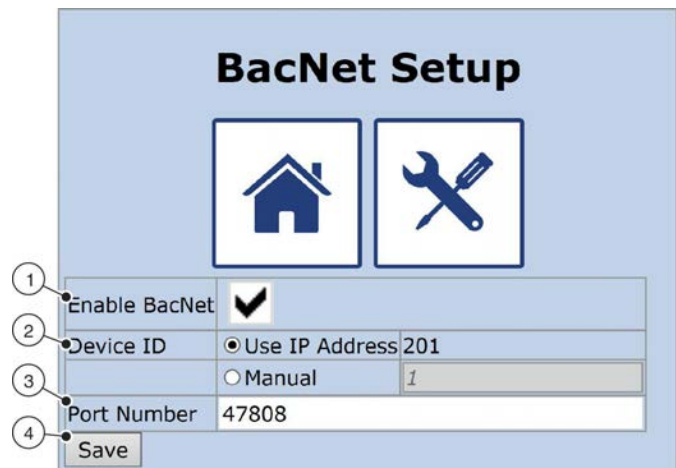

Fig. 116: BACnet setup
- ⇒ The 'BACnet Setup' screen (Fig. 116) displays.
4. ▶ Enable BACnet (Fig. 116 /1).
5. ▶ Enable automatic or manual setting of the IP address (Fig. 116 /2).
6. ▶ Enter the port number (Fig. 116 /3).
7. ▶ Click on 'Save' (Fig. 116 /4).